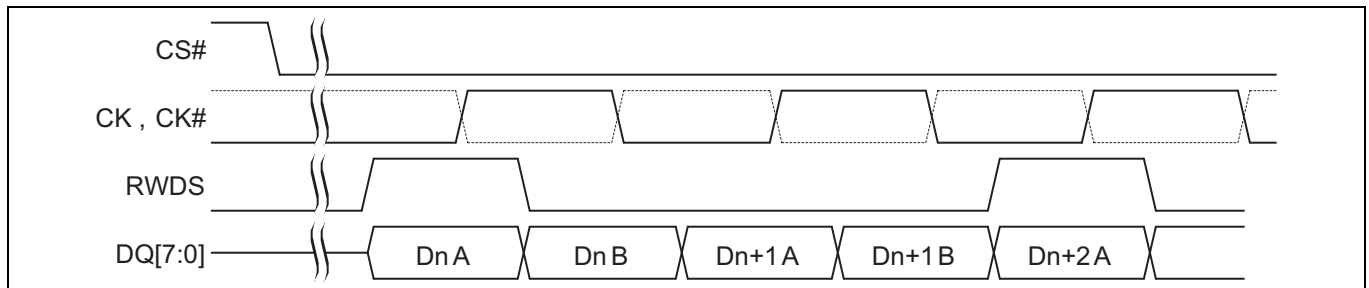

Figure 8 Data placement during a write transaction^[19-22]
19. **Figure 8** shows a portion of a Write transaction on the HYPERBUS™.